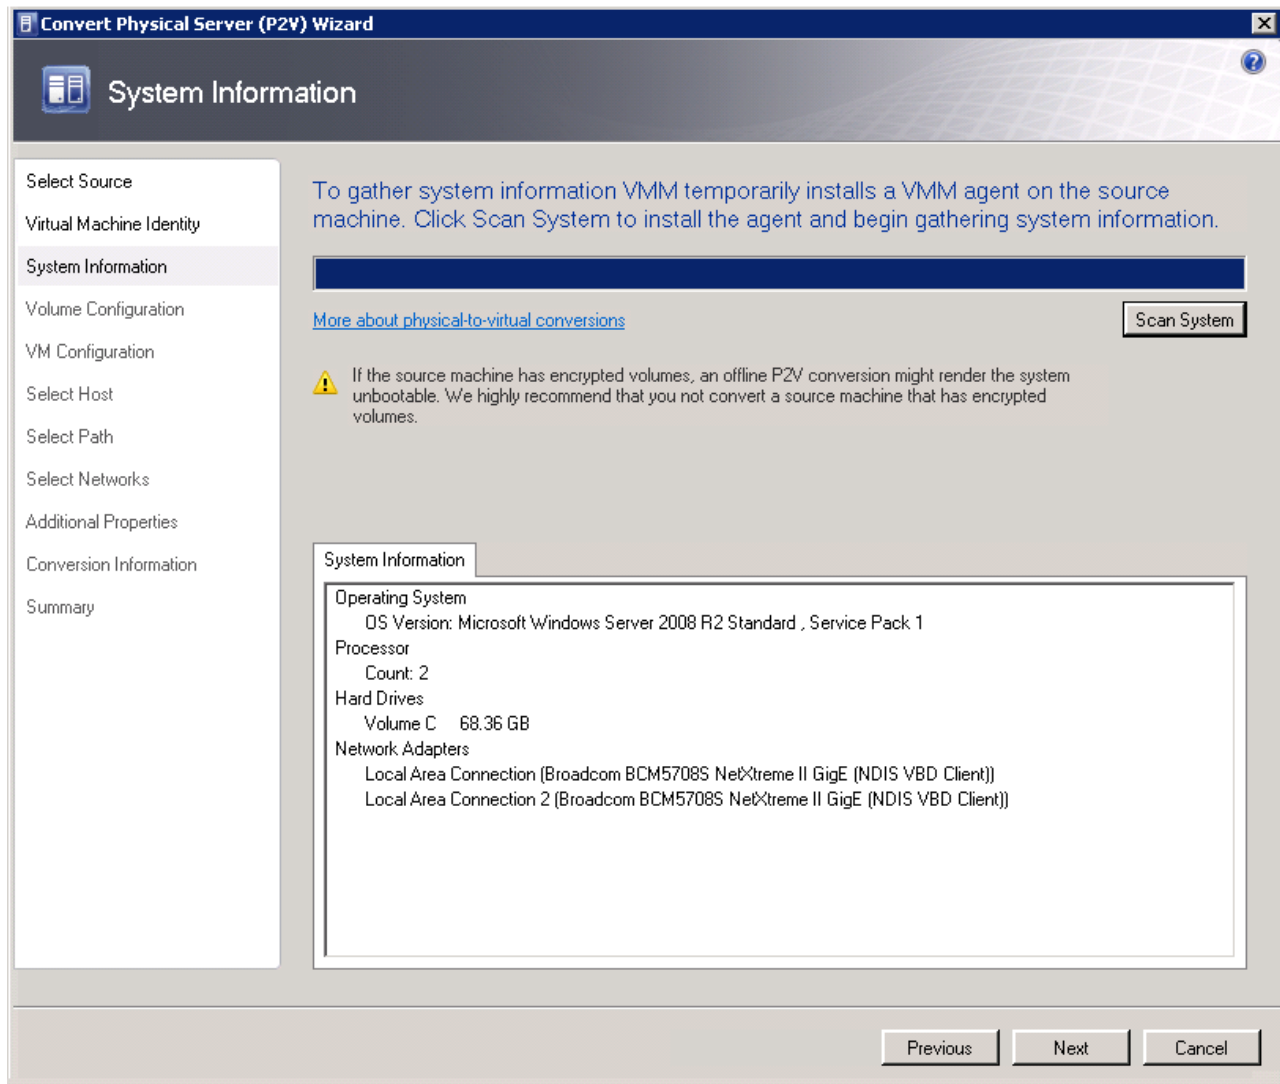

Figure 3-45 SCVMM P2V wizard: System Information
4. Click **Scan System** (as shown in Figure 3-45 on page 98) to scan the source physical computer and install the VMM agent on the source physical computer. (The VMM agent is installed automatically on the source server if the source server is in the same domain as the management server.)
5. The characteristics of the source system are displayed in the System Information window of the wizard, as shown in Figure 3-45. Click **Next**.